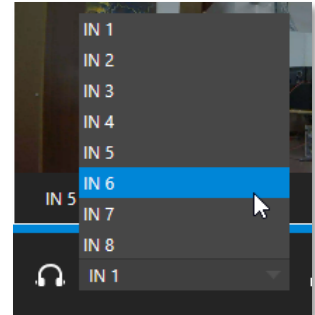

FIGURE 27
1. The audio source supplied to the *Headphone* jack can be selected using the menu next to the *headphone icon* (Figure 27).